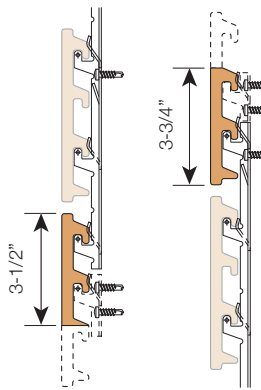

FIG. H10
One slat attaching to two different SLAT profiles is only permitted at the terminating slat in the base, parapet, sill, and head details. See FIG. H10 & 11.
13. Figures H10 and H11 display the proper way to terminate a wall at the top or bottom when a full slat does not fit.